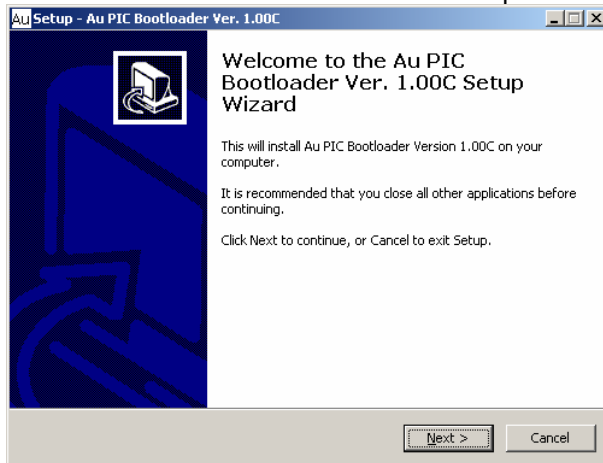

Figure C-2
2. "Welcome to the Au PIC Boot-loader Setup Wizard" window show up, click "Next" (Figure C- 2)